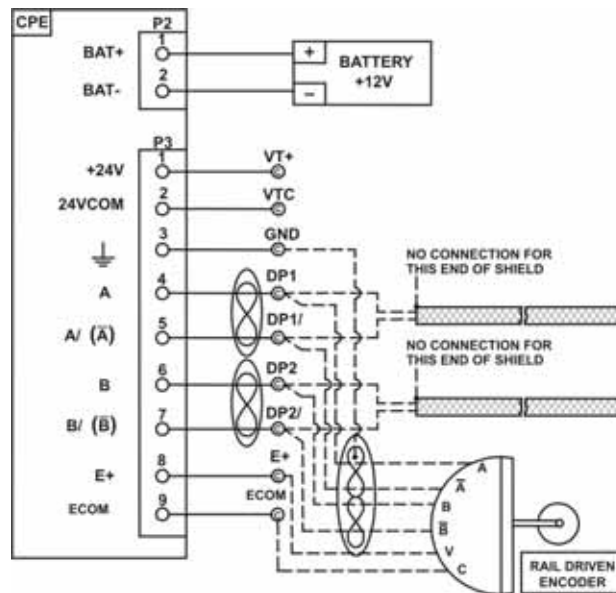

Figure 1-35
**Car Position Encoder:** This encoder is mounted on the cross head above the roller guides. [See Figure 1-35.]